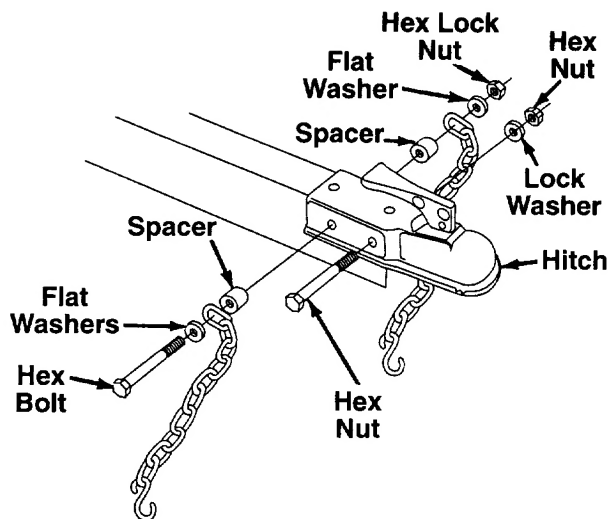

FIGURE 6.
2. Place the hitch in position on the end of the tongue as shown in figure 6. Using hole closest to the jack stand, insert the hex bolt (with hardware attached) through hitch and tongue. Pivot the first chain link on the hex bolt so it faces the ball end of hitch.